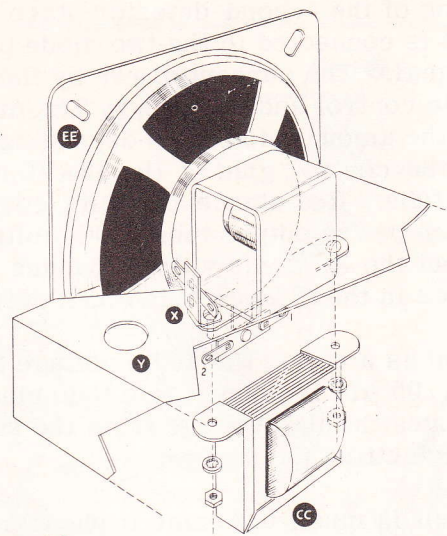

Figure 10
- () Connect a wire to terminal N1 (S). Run this wire along the chassis under all other wires and up through hole Z. Connect the other end to DD1 (S).
- () Run a wire from DD2 (S) to the lug at the front of the tuning condenser over hole S(S). Leave enough slack for the wire to clear the 5Y3 and 12BE6 tubes.
- () Remove screws that hold the output transformer and terminal lug in place and mount the loudspeaker EE on top of the chassis. Note that the terminal lug is mounted on top of the speaker mounting bracket. Observe Figure 10.